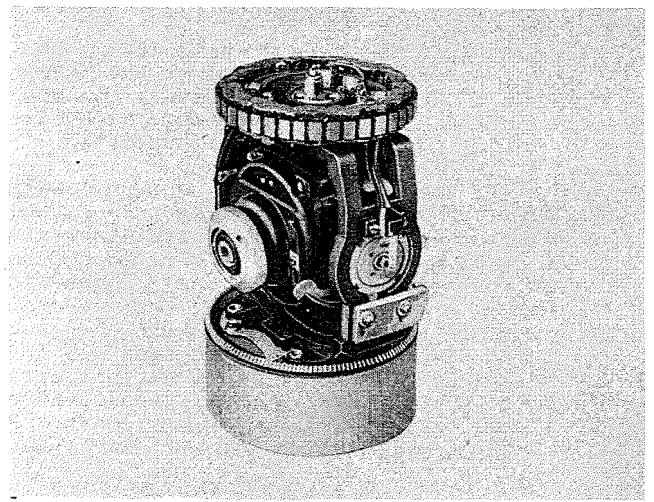

Figure 16
(9) Set the vertical gimbal and gyro assembly in fixture T100355 until ready for further disassembly. (See figure 16.)
(14) Set the vertical gimbal and gyro assembly in fixture T100355 until ready for further disassembly. (See figure 16.)
(15) Remove the remaining fillister-head screw and lock washer, and take the top bracket assembly off the chassis.
(16) Remove the bearing from the top bracket assembly, using bearing puller T100361, and place it in a dustproof container until ready for cleaning and inspection.